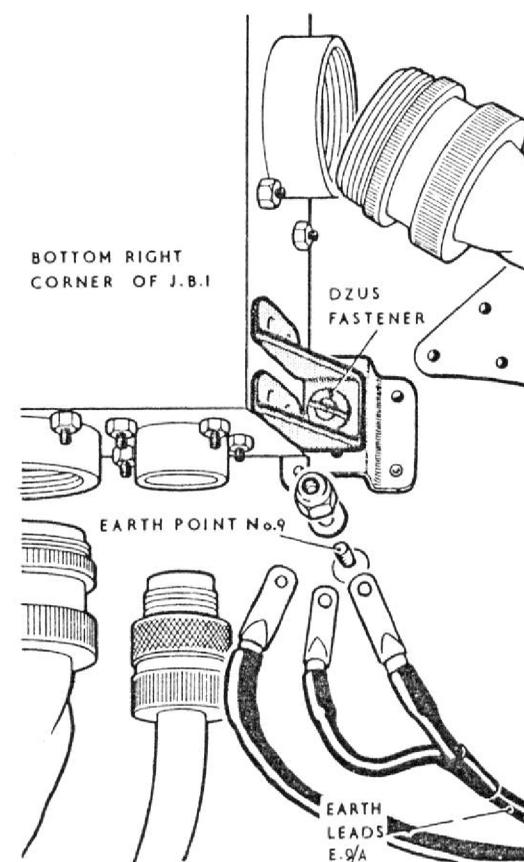

Fig. 1. J.B.1 lower attachments and earth point 9
- (1) *Render the aircraft electrically safe (Group A.1).*
- (2) Open the engine starter access door.
- (3) Disconnect the earth lead E.9/A from earth point 9 located adjacent to the lower right-hand corner of J.B.1 (*fig. 1*).
- (4) Disconnect all the plugs and sockets on the cable assemblies at J.B.1. Seal off the plugs and sockets with approved caps and covers and stow the cable assemblies away from the box.
- (5) Release the two Dzus fasteners at the lower corners of the box (*fig. 1*) and lift the box upwards to disengage the two top mountings.
- (6) Lower the box and remove it from the aircraft, complete with earth lead E.9/A.